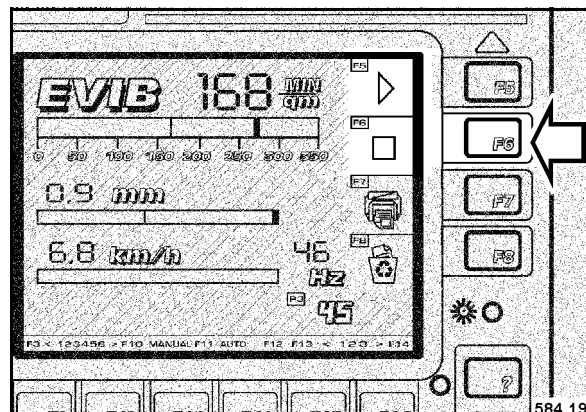

Fig. 97
- When the end of the track, mark 2, is reached, press the button F6 "STOP" (Fig. 97).